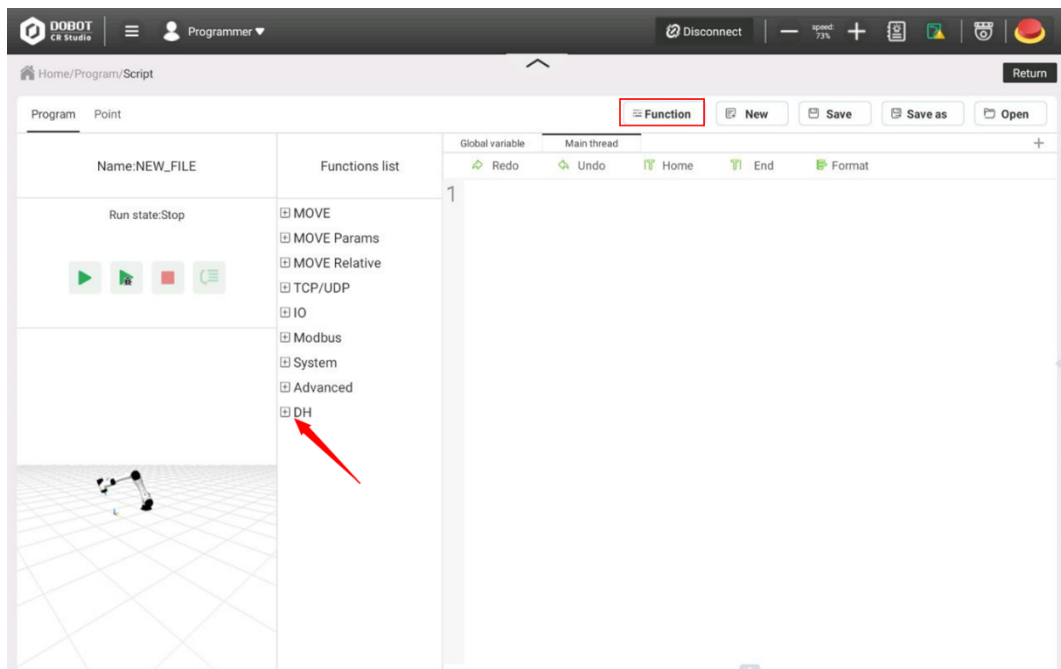

Figure 3.10 Select functions to operate the gripper
**Step 1** Enter the **Script** page, and click **Function**, as shown in Figure 3.10.